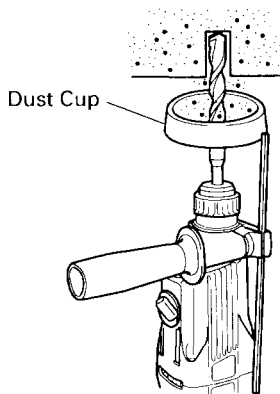
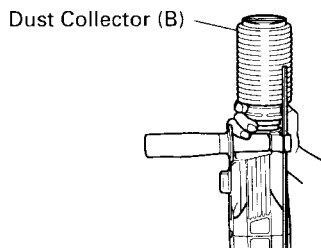

Fig. 3
Fig. 4
7. Installation of dust cup or dust collector (B) (Optional accessories) (Fig. 3, Fig. 4)
Use the dust cup by attaching to the drill bit as shown in Fig. 3.
When using dust collector (B), insert dust collector (B) from the tip of the bit by aligning it to the groove on the grip (Fig. 4)